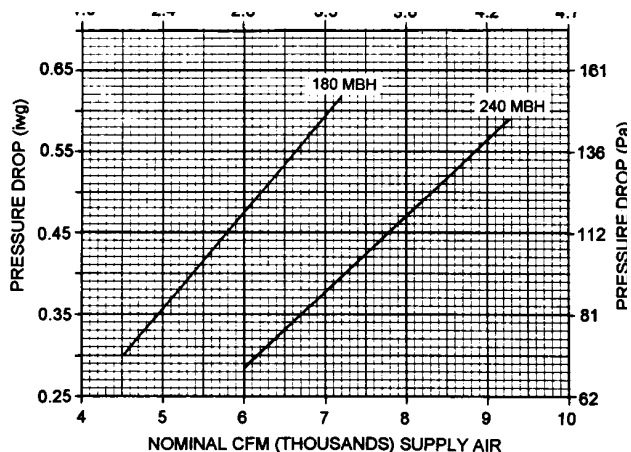

FIG. 9 - PRESSURE DROP ACROSS A DRY INDOOR COIL VS SUPPLY AIR CFM
1. Remove the two 5/16" dot plugs from the blower motor and the filter access panels shown in Figure 9.